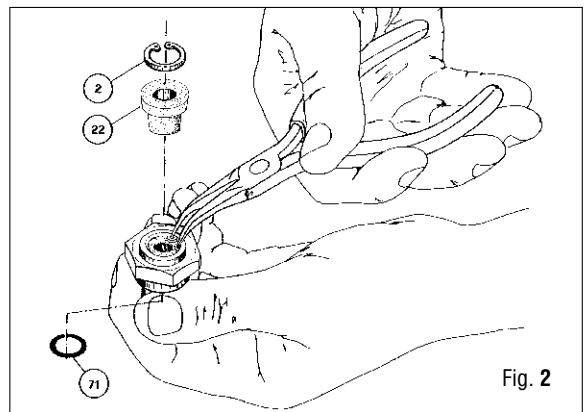

Fig. 2
3. Using the snap ring pliers (B-14), remove the snap ring (2), sintered filter (22) and O-ring (71) from the yoke retainer nut (69). (Fig. 2)
4. Remove the spring (8), poppet (9) and poppet pin (12) from the first stage body (1).